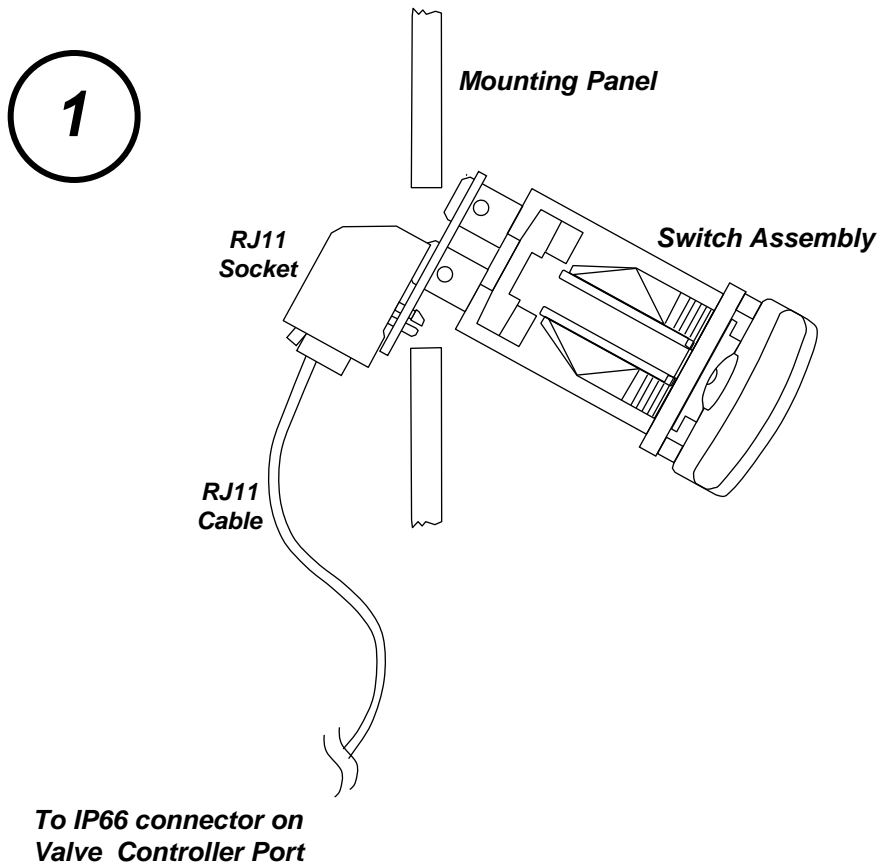

Fig. 18-1
10. Single Switch Insertion : Fig. 18-1 through 18-4 show step sequence for single switch PN 5787 insertion into panel